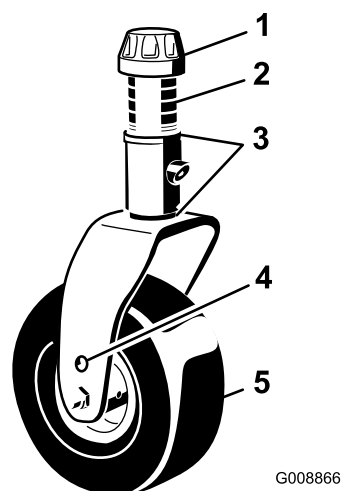
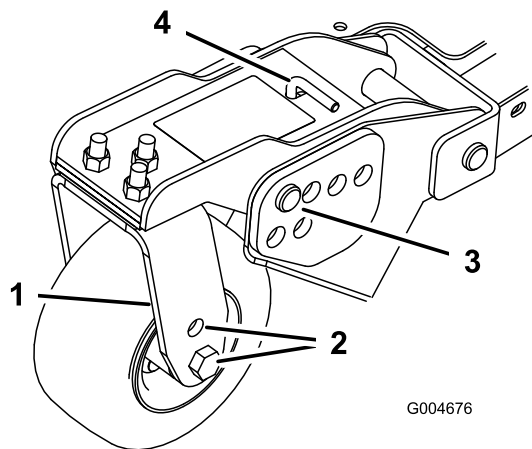
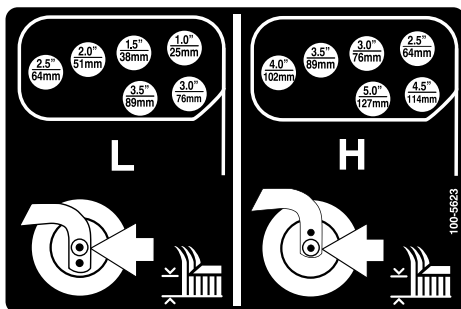

Figure 20
Figure 22
Figure 23
- Position the caster-wheel axles in the same holes in all of the caster forks (Figure 20 and Figure 22).
- Remove the tensioning cap from the spindle shaft and slide the spindle out of the caster arm (Figure 20).
- Remove the hairpin cotter and clevis pins from the caster-pivot arms (Figure 22).
- Rotate the tension rod to raise or lower the pivot arm until the holes are aligned with the selected height-of-cut bracket holes in the mower-deck frame (Figure 22 and Figure 23).